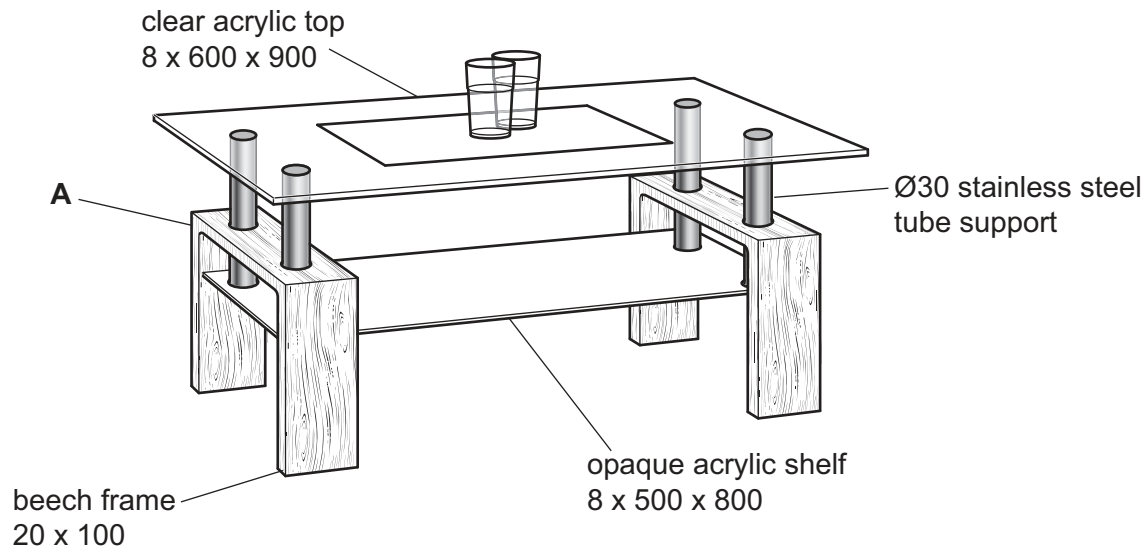

Figure 3.1
3 Figure 3.1 shows details of a coffee table.
- (d) Explain **two** ways that the construction of the coffee table shown in Figure 3.1 has been designed to have minimum impact on the environment.